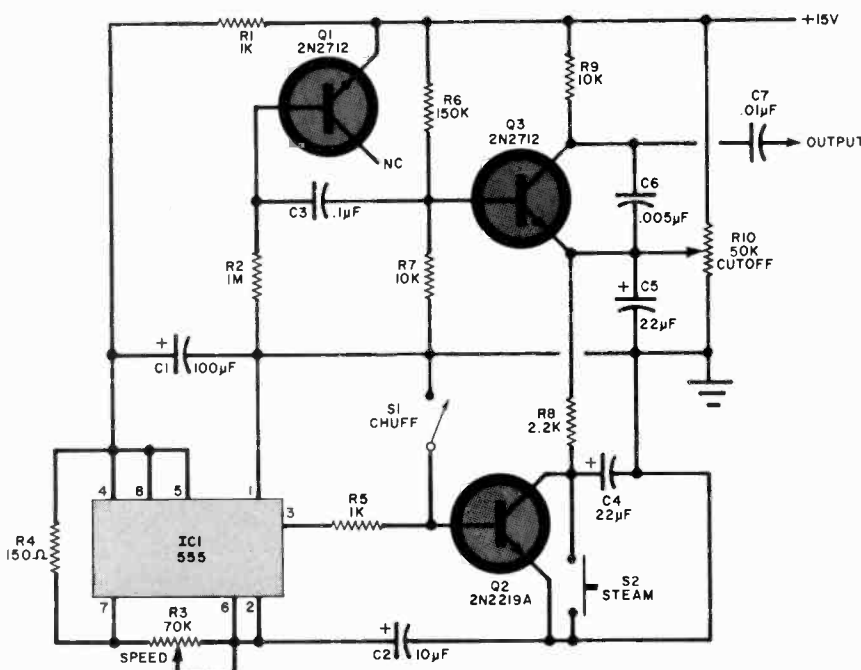

Fig. 2. Steam sound comes from white-noise generator  $Q1$ .
**Chuff-Chuff.** As shown in Fig. 2, transistor  $Q1$  is operated in the avalanche mode and generates a steady white noise (hiss) signal across  $R2$ . This signal is applied to amplifier  $Q3$ , which is adjusted to a point just below cutoff by  $R10$ .